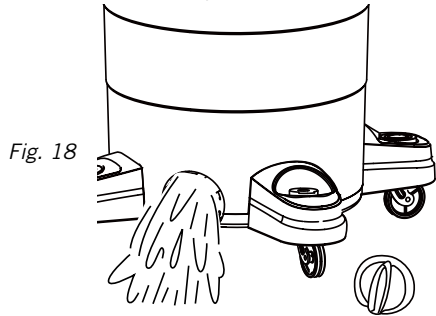

Fig. 18
28. After wet pick up operation, empty the collection tank 8 by unscrewing the drain cap. Drain liquids into a suitable receptacle or drain. Fig. 18. Remember to refit the drain cap to the collection tank.